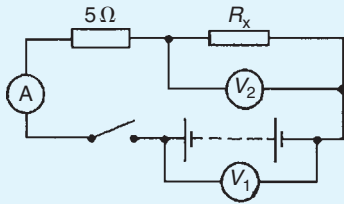

Figure 5.10
3. When the switch in the circuit in Fig. 5.10 is closed the reading on voltmeter 1 is 30 V and that on voltmeter 2 is 10 V. Determine the reading on the ammeter and the value of resistor R_x